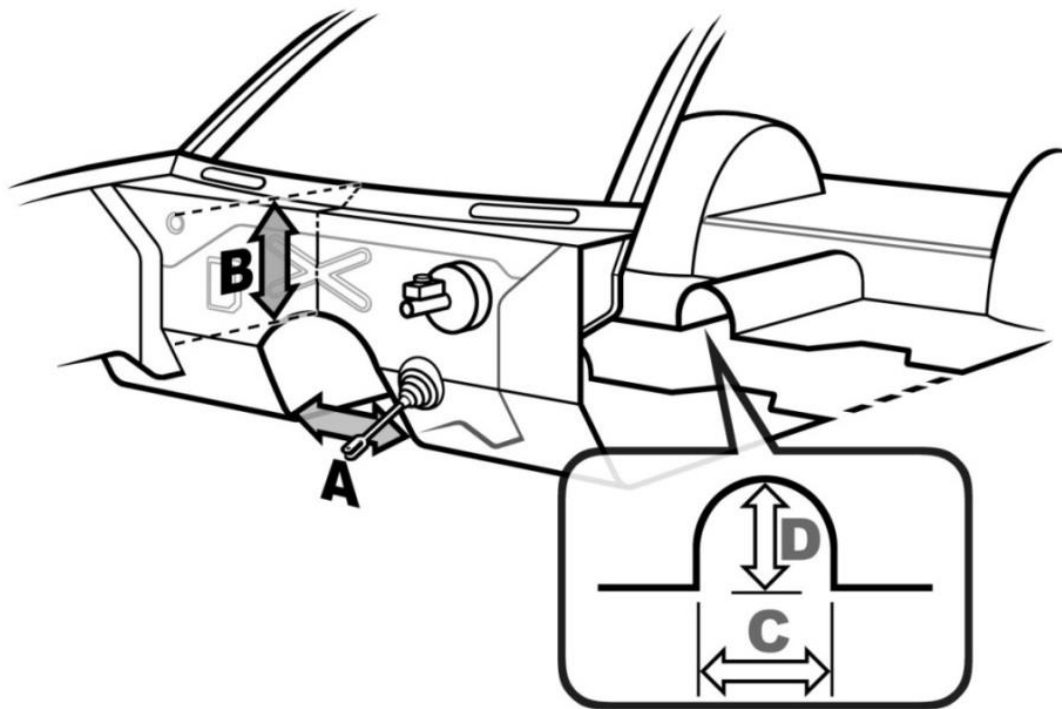

Figure 5
- A. Modifications of the stock, OEM firewall and transmission tunnel are in Figure 5: